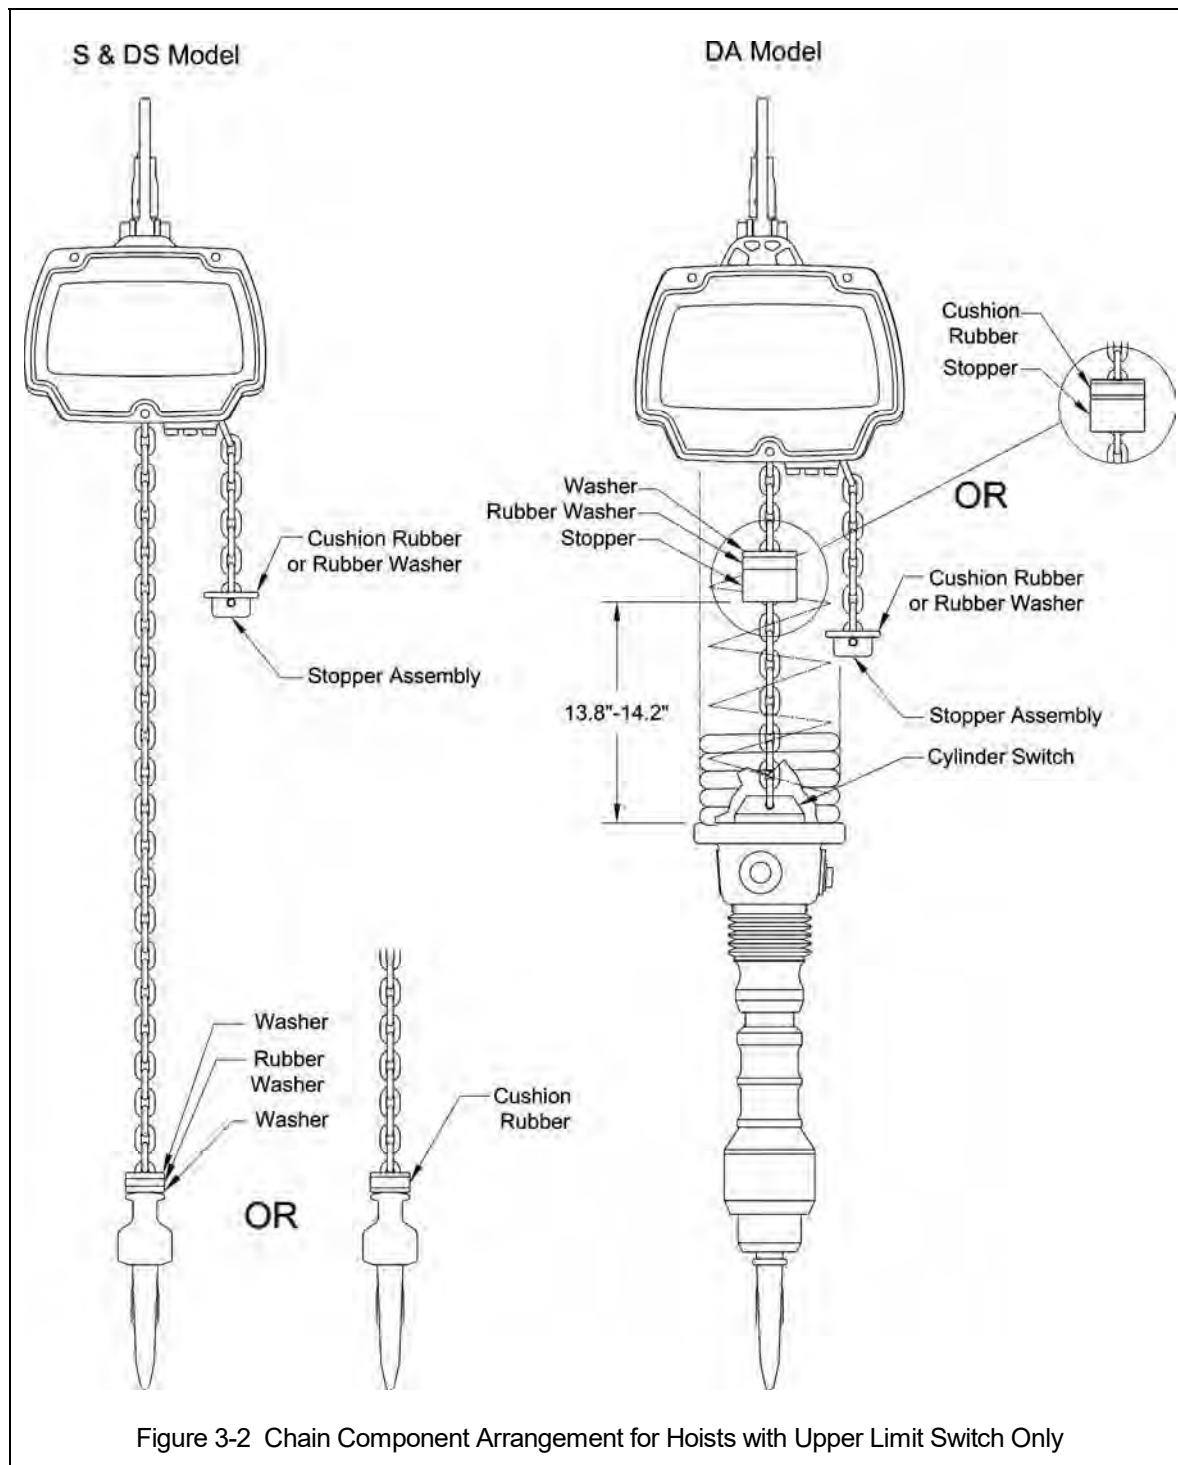

Figure 3-2 Chain Component Arrangement for Hoists with Upper Limit Switch Only
- 3.2.1 The quantity and location of the chain components including Cushion Rubbers, Washers and Stopper Assemblies depend on the hoist model, capacity. Never operate the hoist with incorrect, missing or damaged chain components. Refer to the hoist's nameplate, Table 3-2, and Figure 3-2 and ensure that all chain components are in the correct location and properly installed.